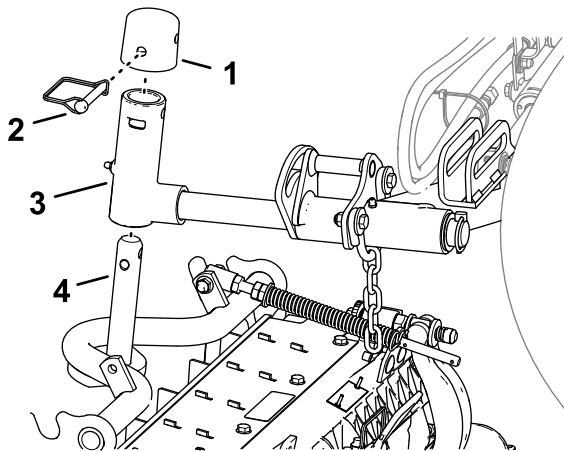

Figure 23
1. Slide a cutting unit under the lift arm (Figure 23).